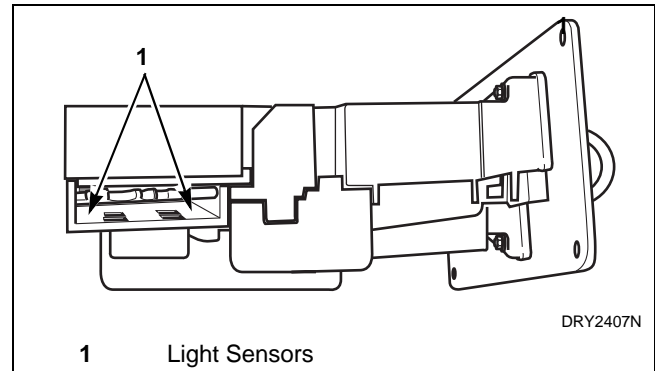

Figure 17
6. Clean light sensors with a soft brush or air spray duster. Refer to *Figure 17*.